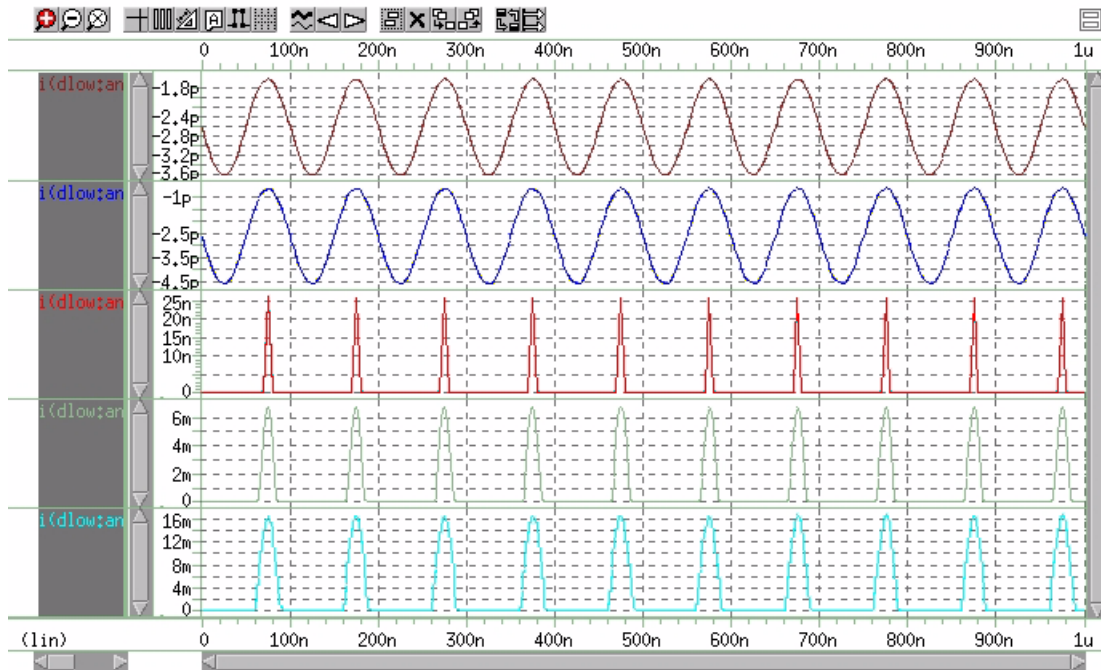

Figure 239 Plot of Current through Diode *dlow* vs. Time
12. Click the ungroup panels icon () on the WaveView panel tool bar to display a plot similar to the one shown in Figure 239 on page 923.